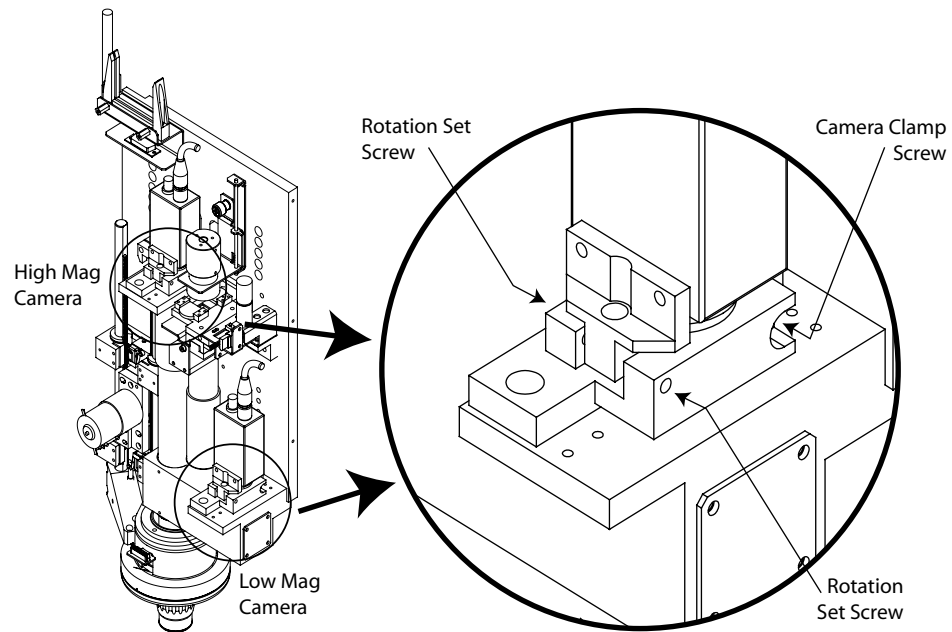

Figure 8-7 Camera Rotation Adjustment
- b. Once the linear scale has been trammed in and the video is displaying a manual crosshair, loosen the High Mag camera clamp; and adjust the Rotation Set Screws (see Figure 8-7) until there is no observable rotation between the crosshair graphics and the glass scale. Tighten the Camera Clamp when finished.
- c. Once the linear scale has been trammed in and the video is displaying a manual crosshair, loosen the Low Mag camera clamp; and adjust the Rotation Set Screws (see Figure 8-7) until there is no observable rotation between the crosshair graphics and the glass scale. Tighten the Camera Clamp when finished.